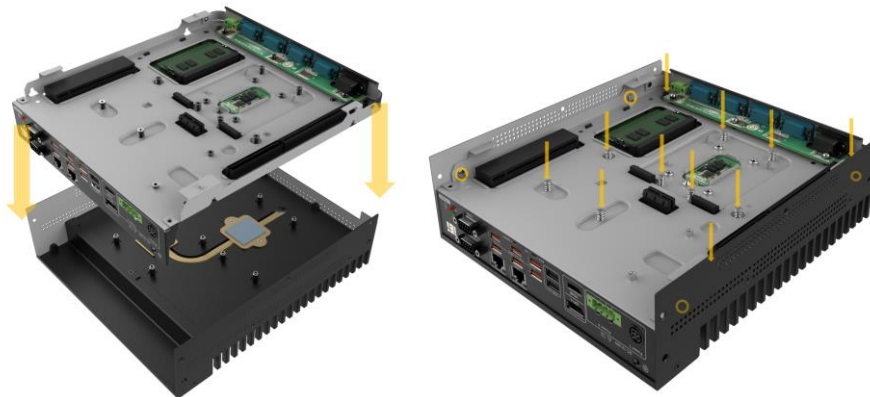

Figure 3-5: Motherboard Installation
Step 4: Align the motherboard (together with the motherboard holder) with the 4 positioning rods on the 2 sides, place it on the heat sink, and lock the motherboard with 11 spring screws. (**Figure 3-5**)